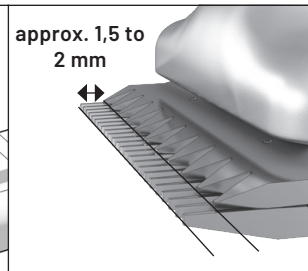

Fig. 5
- Position the lower blade so that the cutting surface protrudes approx. 1.5 to 2 mm beyond the edge of the upper blade (fig. 5).
- Tighten the fixing screws (7) using the tool.